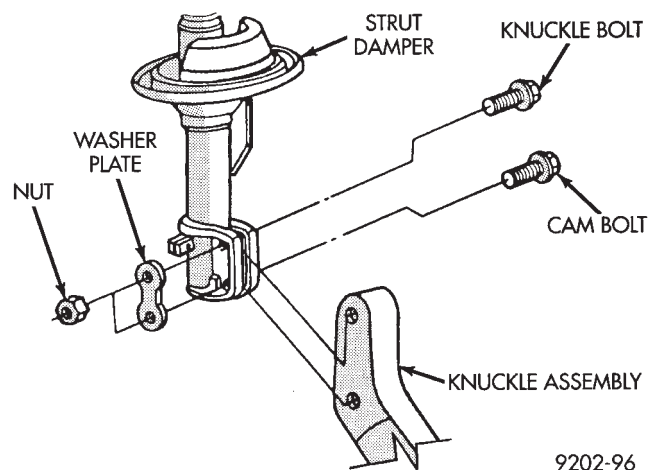

Fig. 9 Remove Or Install Steering Knuckle
(10) Remove the steering knuckle to strut damper attaching bolt and cam bolt (Fig. 9). Note the location of the cam bolt, it must be installed in the same location when steering knuckle is installed back on strut damper.
(3) Install the steering knuckle back on the strut damper (Fig. 9). Install the strut damper to steering knuckle attaching bolt, cam bolt, washer plate and nuts. Torque bolts to 100 N•m (75 ft.lbs.) plus 1/4 turn. **Be sure the cam bolt is installed in same location it was removed from.**